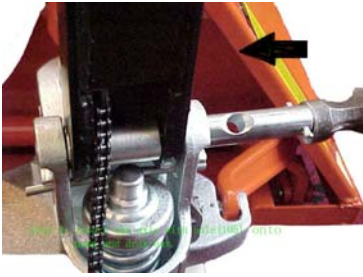

Fig. 2
**2.1** Insert the draw-bar onto the pump piston (303), then use a hammer to insert the axle with hole (G105) into the hydraulic pump and draw-bar **from the right to left.** (See fig. 2 ).